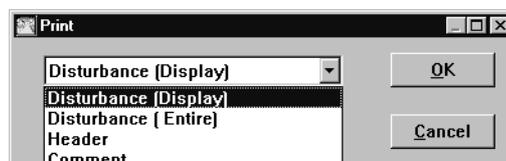

Fig. 27 The print dialogue box.
- 1 Select Print to show the print dialogue box, see Fig. 27.